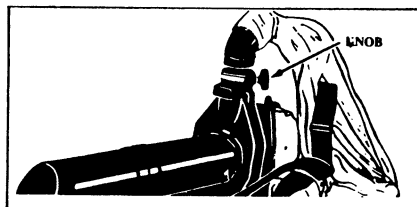

Figure 11
10. Align the Collection Bag Elbow Tube to exhaust in an upward direction. See Figures 11 & 13. Adjust the Vacuum Collection Bag until the Shoulder Strap is aligned with the upper handle. Figure 13. Secure the Collection Bag Elbow to the engine by tightening knob or screw on Impeller Housing until hand-tight.
7. Align the Collection Bag Elbow Tube to exhaust in an upward direction. See Figures 11&13. Adjust the Vacuum Collection Bag until the Shoulder Strap is aligned with the upper handle. Figure 13. Secure the Collection Bag Elbow to the engine by tightening knob or screw on Impeller Housing' until hand-tight.